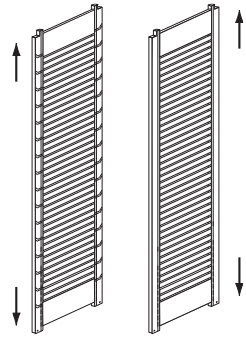

FIG. 3.0
1. Select (B) Tower sides and position across from one another with grooves facing inward (**Notched end is top of Tower side**) (Fig. 3.0)